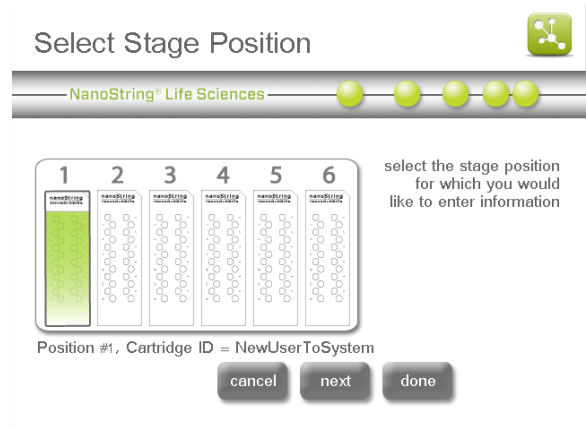

Figure 88: The ‘Select Stage Position’ screen.
7. The ‘Select Stage Position’ screen will appear (**Figure 88**).